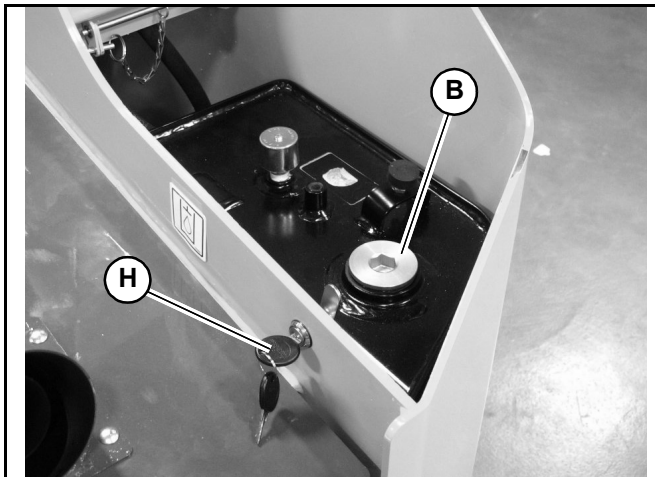

Fig. 99 – Hydraulic Oil Fill
5. If the hydraulic oil level is low, use the accessory key (supplied with the ignition key) to unlock and open the hydraulic tank cover (H, Fig. 99), located on the top right of the machine next to the top engine cover.
9. Using the key, unlock and open the hydraulic tank cover (H, Fig. 99), located on the top right of the machine next to the top engine cover.
10. Remove hydraulic oil fill cap (B, Fig. 99) and add the recommended type and amount of oil. See “Fluids/Lubricants Types and Capacities” on page 31. Replace and tighten the hydraulic oil fill cap after the oil is added.